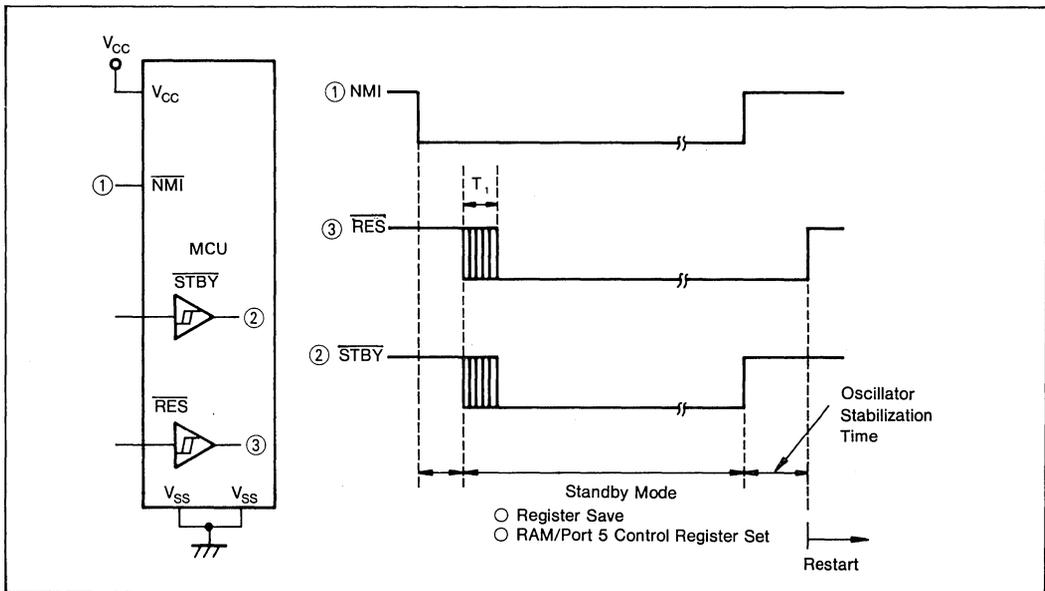

Figure III-15. Standby Mode Timing
**Question:** The timing for the standby mode is shown in figure III-15 (see also figure 3-5). Is T1 in the figure defined?